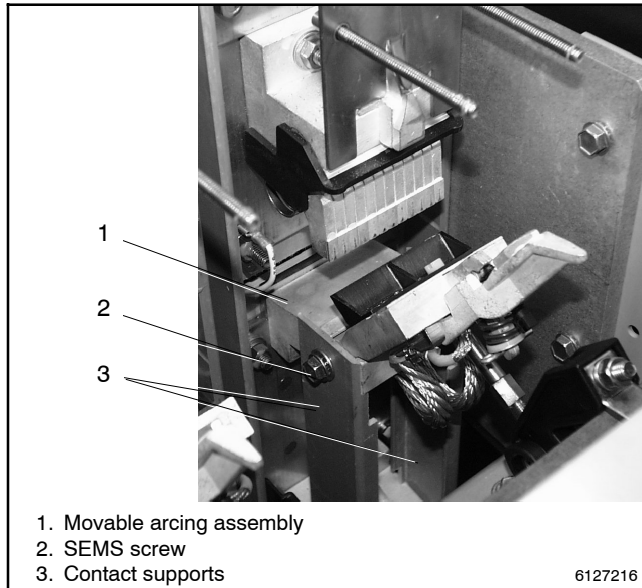

Figure 9-12 Contact Supports (Both Sides)
1. Remove the contact supports from both sides. Use a 1/2 in. box or open-end wrench to remove four SEMS screws (left and right, upper and lower). Then remove the two contact supports that run vertically between the Normal and Emergency movable contact assemblies (two for each pole). A 3-pole switch has 6 contact supports. See Figure 9-12.